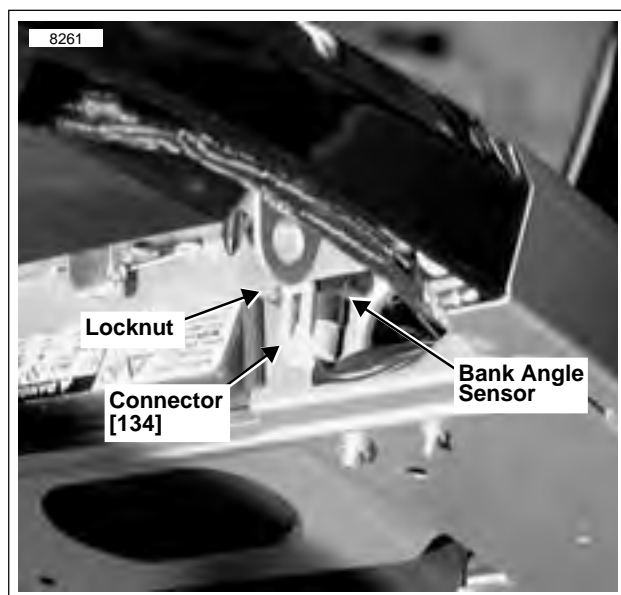

Figure 7-11. Bank Angle Sensor Removal
3. See Figure 7-11. Remove circuit breaker from mounting bracket.